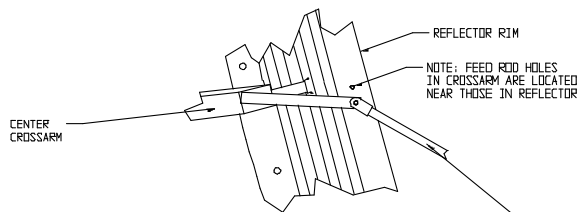

Figure 3.0-1
2.      Attach the longer flat end of the feed rods loosely to the outside of the crossarm with 5/16-18 x 1.50" bolts, flat washers, lock washers and nuts. Reference Figure 3.0-1.